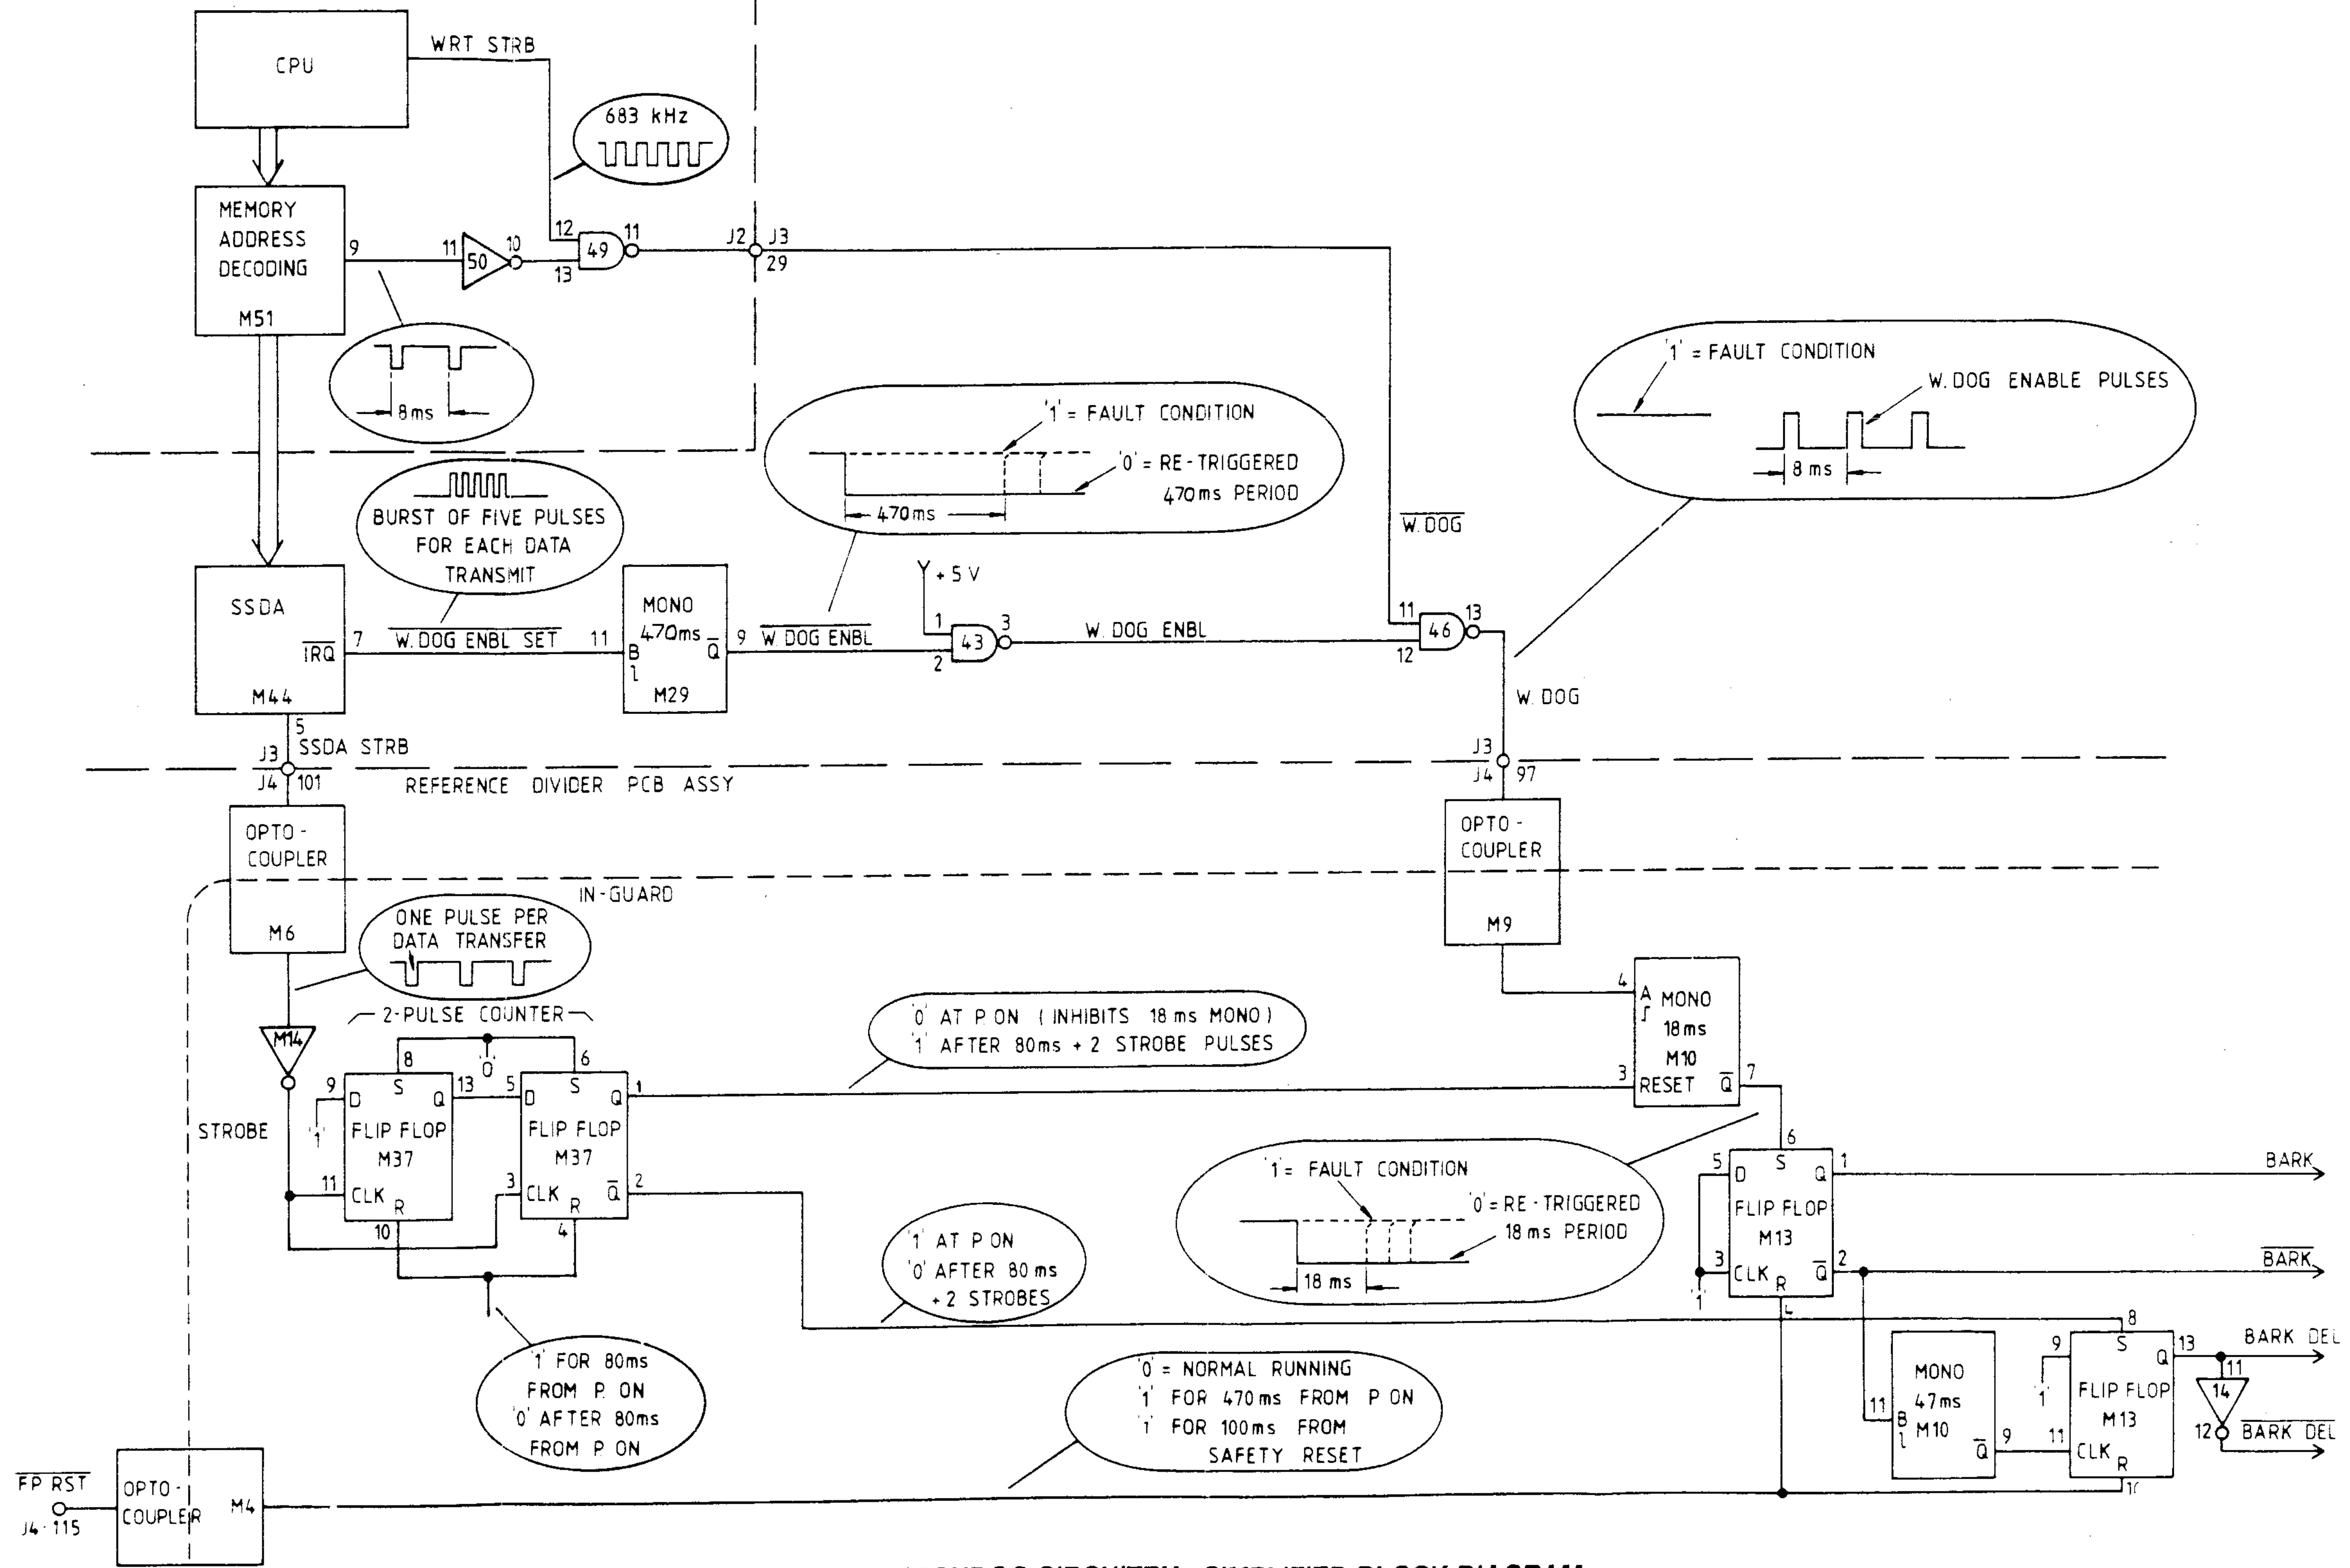

FIG. 6.17 WATCHDOG CIRCUITRY - SIMPLIFIED BLOCK DIAGRAM
6.4.6 SAFETY MONITOR (WATCHDOG) (Fig.6.17)
(Fig 6.17)